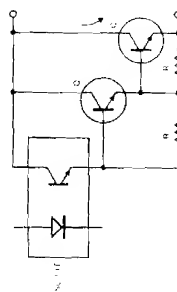

Figure 4. Two-NPN Current Booster
If the load requires more current than can be obtained with the highest beta transistor available, then more than one transistor must be used in cascade. For example, suppose 3 amperes load current and 10 watt dissipation are needed. A Motorola MJE3055 might be used for the output transistor, driven by a MJE205 as shown in Figure 4. Using a 57-watt heat sink and the rated MJE3055 junction-to-case thermal resistance of 1.4°C/watt, we find that junction temperature rise is 6.4×10 , or 64°. Therefore maximum junction temperature is 124°C. This is 10 decades above 25°C making $I_{CEO} (T) = 2 \times 10^{10} I_{CEO} (max) = 10^{10} I_{CEO} (max)$.